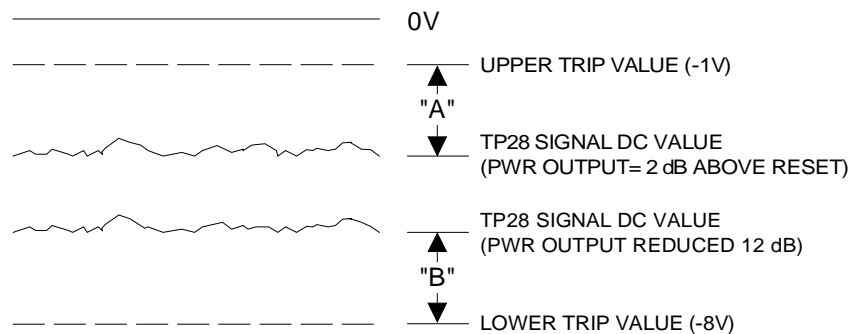

Figure 6-6. RF Models ALC Operating Point Adjustment Point Diagram
Step 8 For models 5407A, 5409A, and 5411A: Adjust A6R183 (R216) until the waveform DC component value is $-3.5V \pm 0.5V$, as indicated by the oscilloscope trace. Note that this value is nominally 2.5V below the $-1V$ "Upper Trip" value shown in Figure 6-6. This difference value is labeled "A" in Figure 6-6. Verify that there are no oscillations present on the trace.